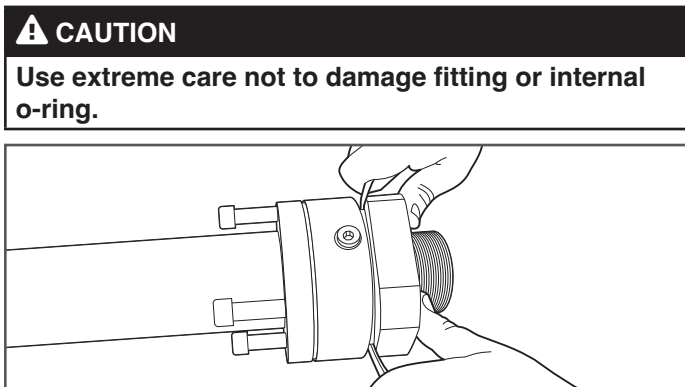

Figure 8-2
2. Pry off fitting front adaptor using a flat tip screwdriver or flat pry bar (Figure 8-2).